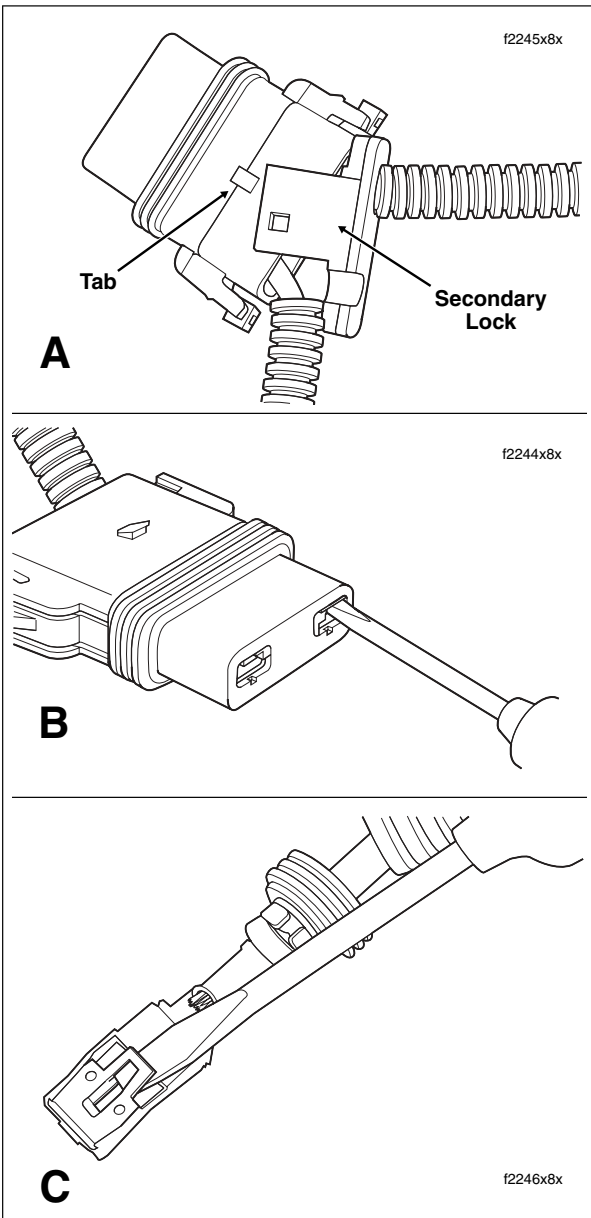

Figure B-25. Remove Socket Terminals
- a. Gently pull socket housing to disengage slots from tabs on socket housing. See A of Figure B-25. Free secondary lock from cables and set aside.
- b. Take note of the opening on one side of the socket terminal. Gently insert flat blade of pick (Snap-On TT600-5) or small screwdriver into opening until it stops. Pivot the pick toward the terminal body and hold in position. See B of Figure B-25.
- a. Carefully bend tang outward away from the terminal body. See C of Figure B-25.